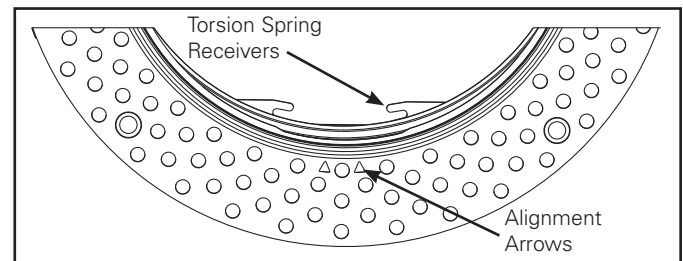

Figure 2.
4. Carefully locate the torsion spring receivers inside the housing and align arrows of the plaster ring (Figure 2). While holding the top of the housing, carefully press plaster lathing ring onto the housing ensuring all four snaps align with the notches in the housing.
5. Apply uniform pressure across the perforated flange forming a tight bond with the ceiling. Securely tighten adjustable hanger screws (2) to prevent vertical movement of housing. Allow sufficient cure time, as recommended by the adhesive manufacturer, before application of joint compound.